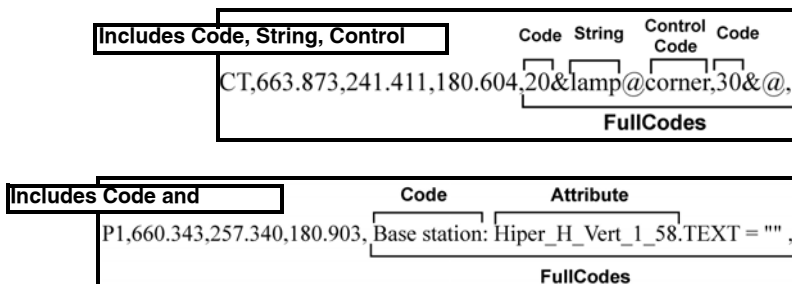

Figure 3-2. Examples of File Formats with FullCodes
- FullCodes include Code, String and ControlCode – if these codes are included as shown in Figure 3-2 on page 3-4.
- FullCodes include Code and Attribute – if these codes are included as shown in Figure 3-2.